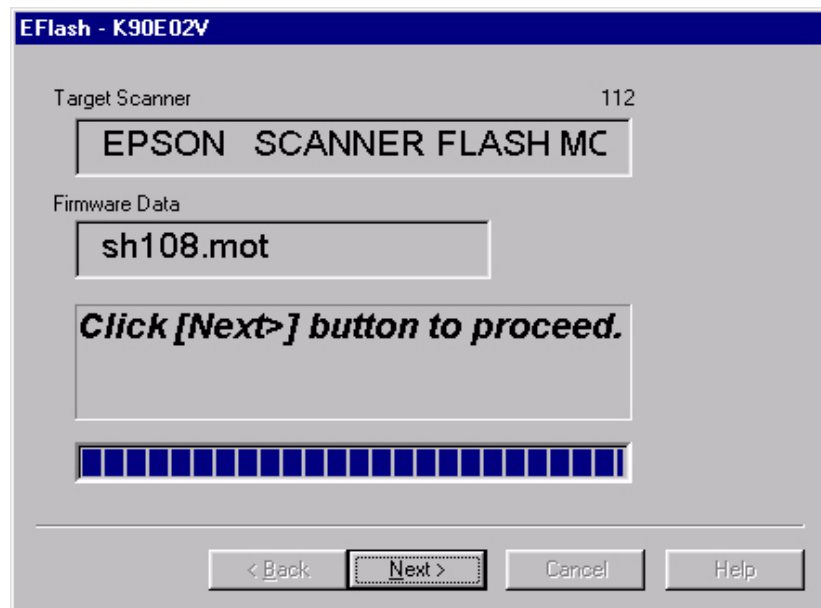

Figure 5-9.
6). Reboot the scanner and click "OK". The reboot message box will be closed and Figure 5-9 will appear on the screen.